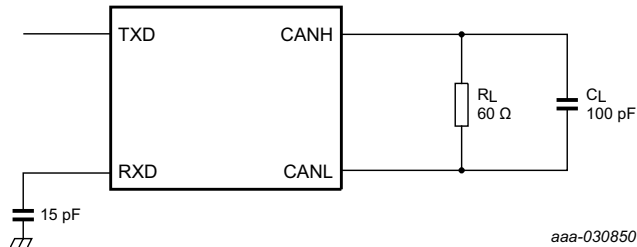

Fig 16. Timing test circuit for CAN transceiver
- [2] See Figure 11 and Figure 16.
- [3] See Figure 12 and Figure 16.